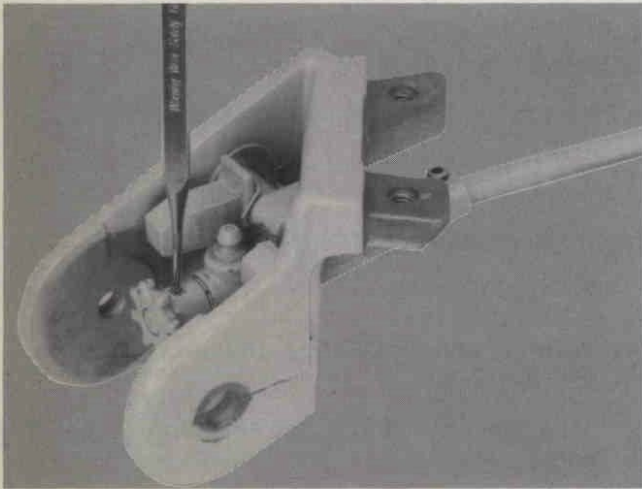

Figure 8. Securing Magneto Control Shaft Gear.
- A. Install two (2) nylon bearings on shaft bore in bracket.
- D. Place gear on shaft and secure with spring pin. Figure 8.